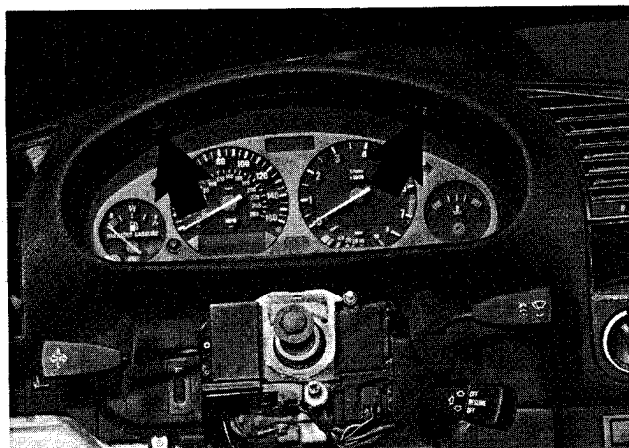

Fig. 1. Instrument cluster retaining screws (arrows).
4. Remove instrument cluster retaining screws. See Fig. 1.